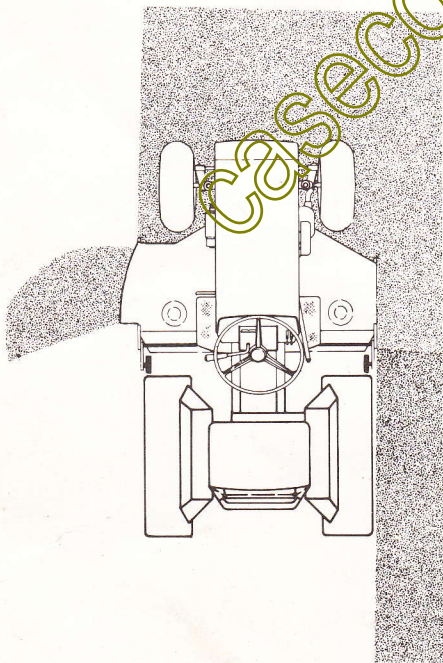

Figure 2.
4. Figures 2 and 3 illustrate two systems for mowing. If the grass is high or heavy, always mow to throw the clippings away from the uncut area, Figure 2. If the grass is light and more thorough mulching is desired, discharge the clippings toward the center of the uncut area, Figure 3.